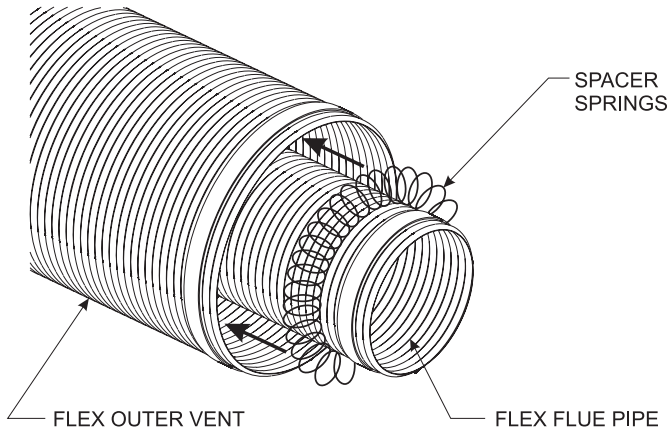

Figure 68
2. Check to see that the vent spacer springs are located around the flue vent at 8" intervals along its length. See Figures 68 & 69. If not, stretch the spacer springs to about 15" long and wrap them around the flue, then interlock the ends of each spring. Maintain equal distance between spring spacers.